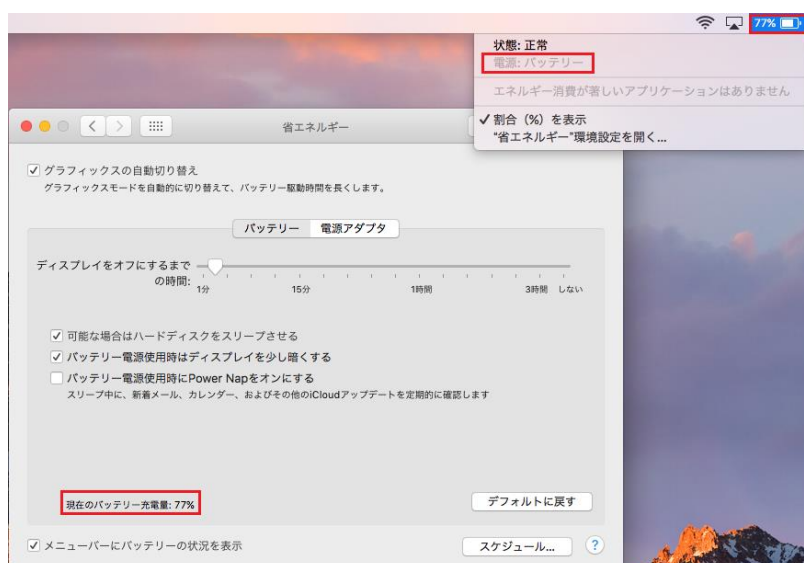

Figure 5-18 Confirming Power Is Being Supplied by MacBook
- 2) “Power Source: Battery” and “Current battery charge” appear, as shown in Figure 5-18. This shows that the MacBook Pro battery operations are supplying power to the board.